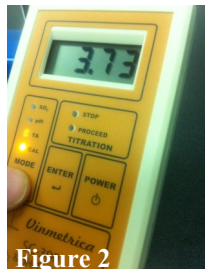

Figure 2
3. The instrument will display the apparent pH value and the "CAL" LED flashes when calibration for this value is ready. Press ENTER to accept the calibration (**Figure 2**).